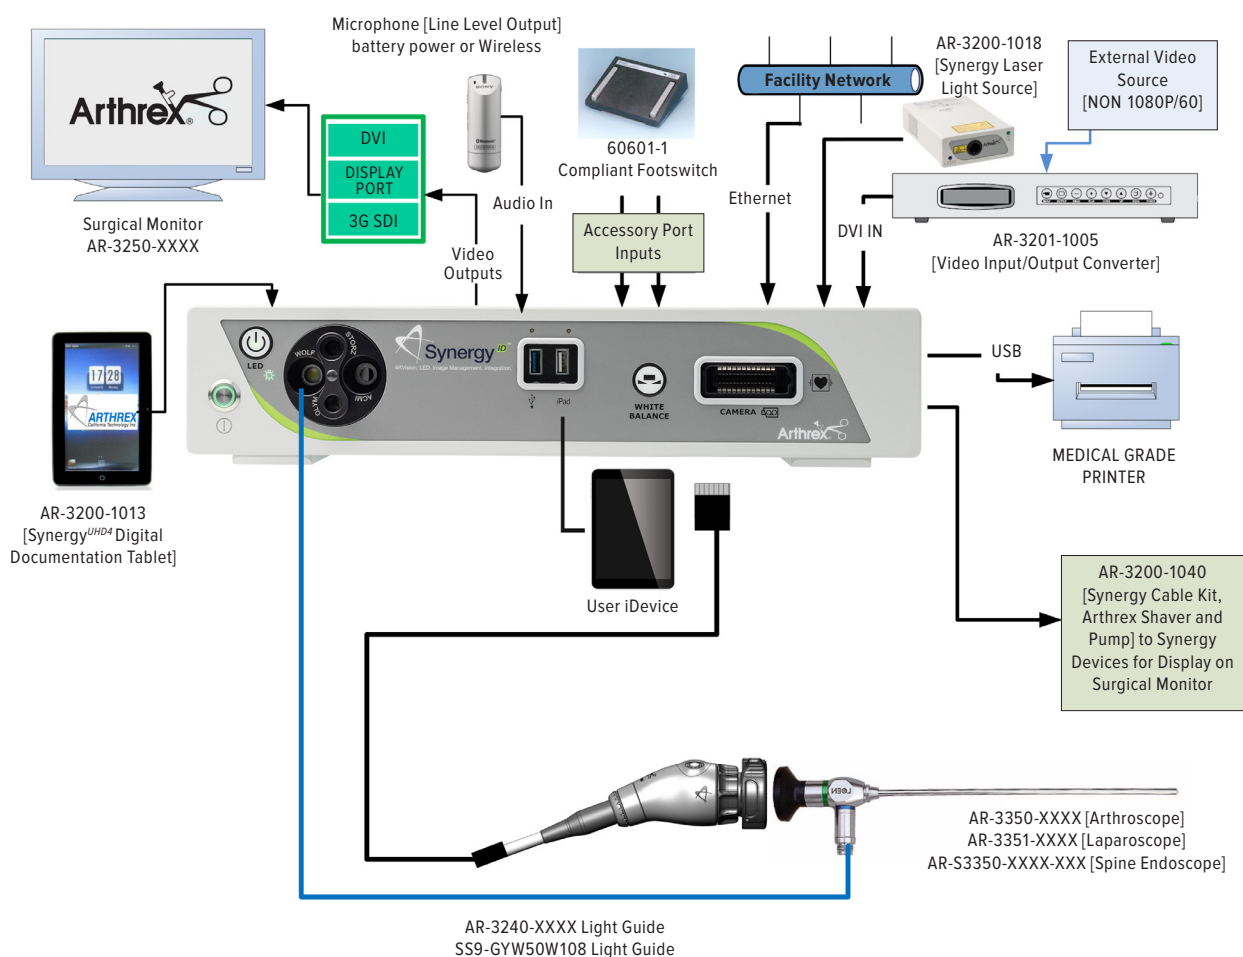

Figure 12 – Synergy^{ID} Typical Interconnect Diagram with OPTIONAL Digital Documentation Tablet [Integrated Optics Heads]
1. **Button 1** – A programmable button that can activate various functions of the camera. See Figure 12 – Synergy^{ID} Typical Interconnect Diagram with OPTIONAL Digital Documentation Tablet [Integrated Optics Heads] for programming information.
2. **Button 2** – A programmable button that can activate various functions of the camera. See Figure 12 – Synergy^{ID} Typical Interconnect Diagram with OPTIONAL Digital Documentation Tablet [Integrated Optics Heads] for programming information.
NOTE: See Typical Interconnect Diagram (see Figure 12 or 13).